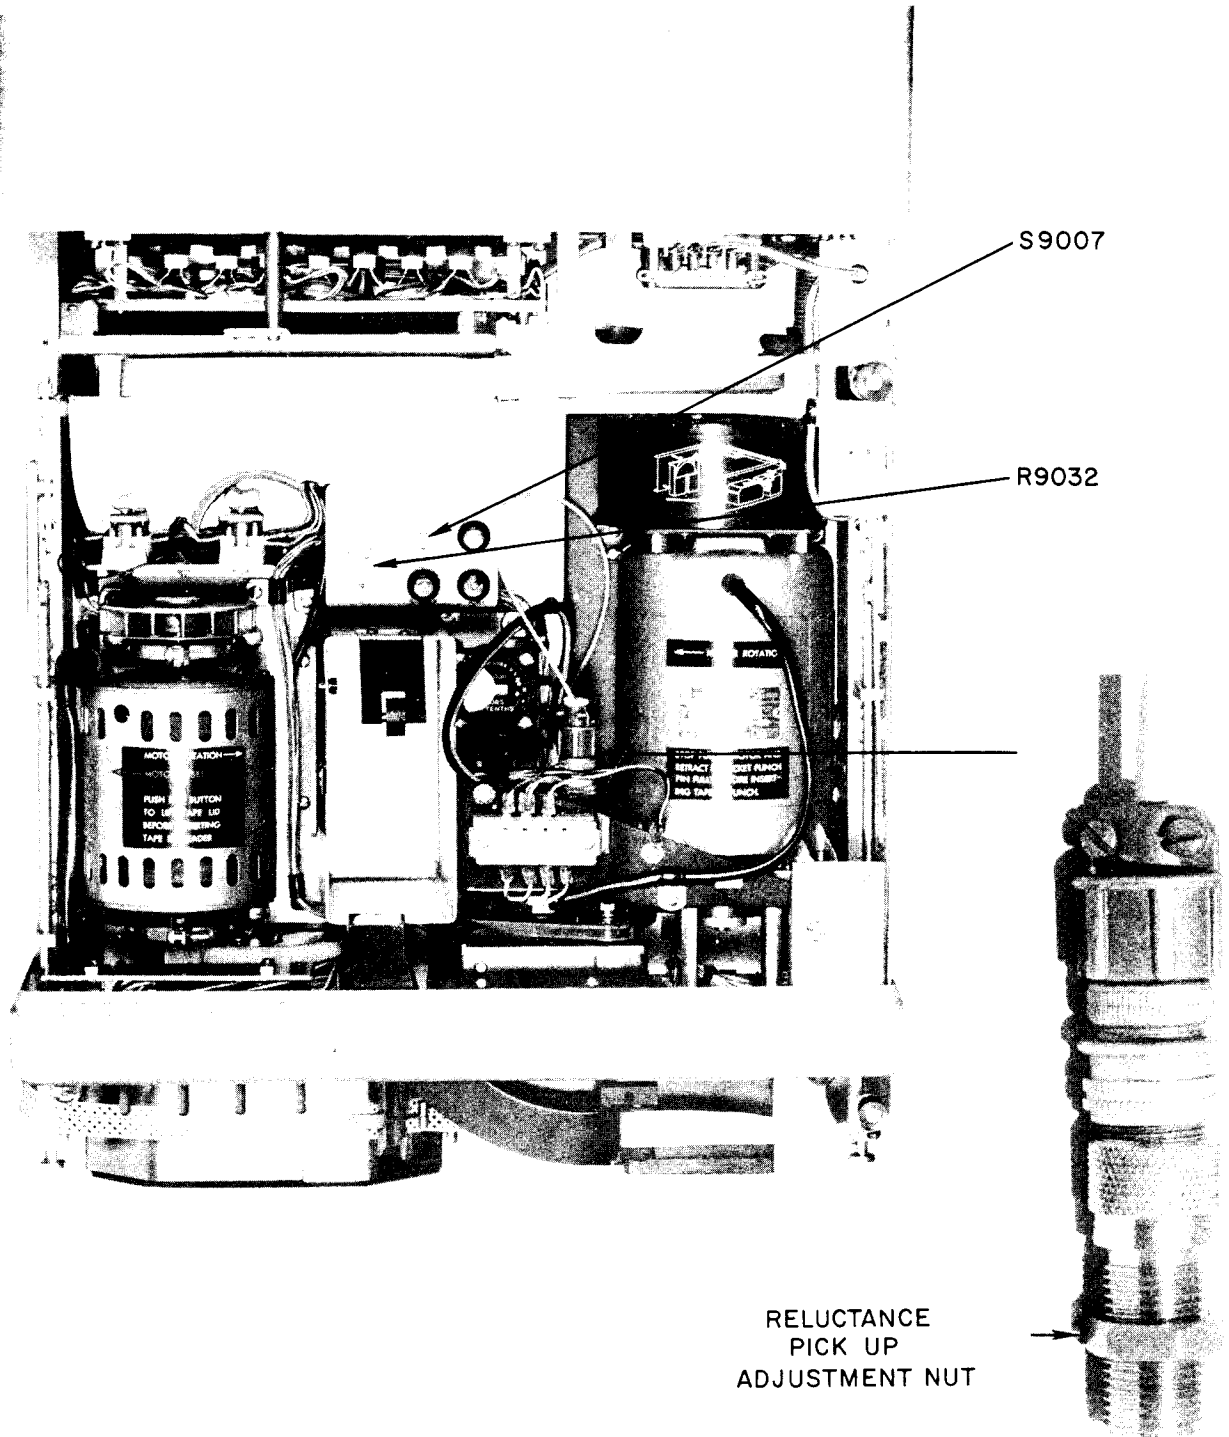

Figure 6-3. Perforator-Reader Adjustment Controls
(1) TEST EQUIPMENT. - Test equipment required to perform adjustments consists of an oscilloscope, Tektronix Model 535 or 545; and a punch control.
(2) TEST SETUP. - Ascertain that the perforator-reader is connected to punch control.
(3) INSTRUCTIONS. - Perform either or both adjustments given in following subparagraphs (a) and (b) as necessary. See figure 6-3 for location of adjustment controls.
Step 10. Release magnetic pickup mounting nut (see figure 6-3) and insert an 0.030-inch thickness gage between timing disc and magnetic pickup.